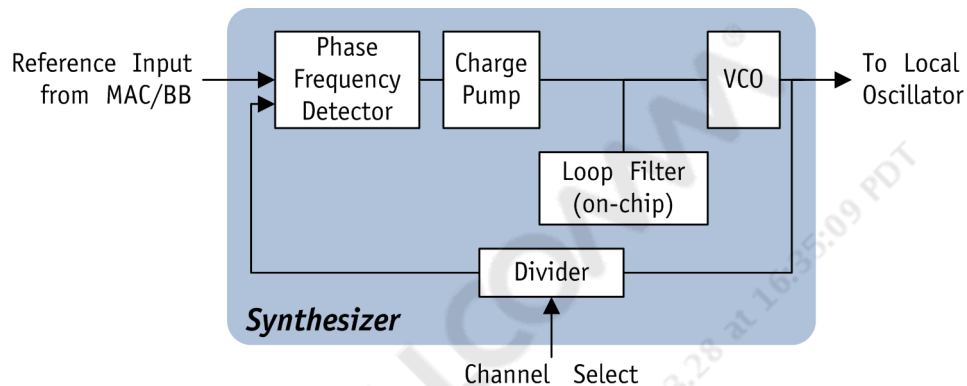

Figure 4-4 Radio Synthesizer Block Diagram
The radio supports an on-chip synthesizer to generate local oscillator (LO) frequencies for the receiver and transmitter mixers. The synthesizer has the topology shown in Figure 4-4. The QCA9531 generates the reference input from a 40 MHz crystal for the synthesizer. An on-chip voltage controlled oscillator (VCO) provides the desired LO signal based on a phase locked loop.